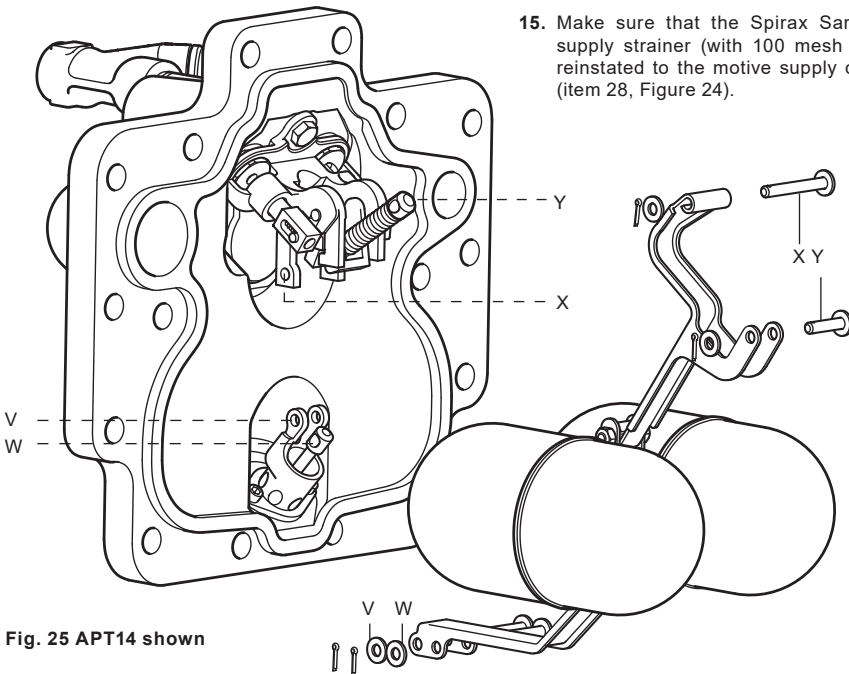

Fig. 25 APT14 shown
10. It is easier to fit the replacement shafts in the following sequence:- (See Figure 25).
3. Carefully fit a new gasket (item 2) into the existing body.
4. Remove split pin, washer and shaft from the trap pivot (V) (See Figure 25).
5. Remove split pin, washer and shaft from the trap 1st stage valve (W).
6. The floats and levers (items 5, 6 ,7) can now be swung out of the way leaving access to the trap and check valve assembly.
7. Using the 4 mm Allen key unscrew the two M5 cap screws (item 21).
12. Tighten the two M5 cap screws (item 21) to 5 ± 1 N m (4 ± 0.7 lbf ft).
13. Refit the two shafts (V and W) (length 38 mm) - remembering to use new split pins and washers - to the trap housing (item 9) and trap 1st stage valve (item 22).
14. Move the floats to their upper and lower limits to ensure the trap mechanism operates smoothly and both the 1st stage and 2nd stage valves (items 22, 8) slide smoothly within their guides.